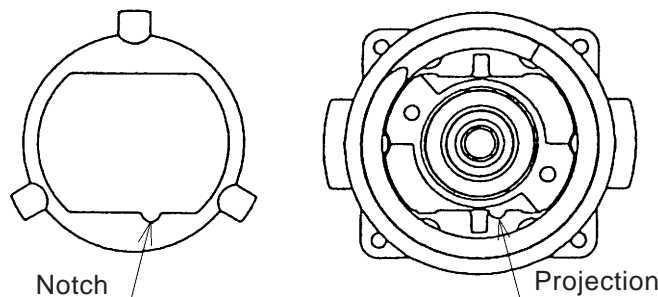

Fig. 5
- (i) When installing the Clutch Plate [7] into the Front Case [11], align the projection on the Front Case [11] with the notch of the Clutch Plate [7]. (See Fig. 5.)